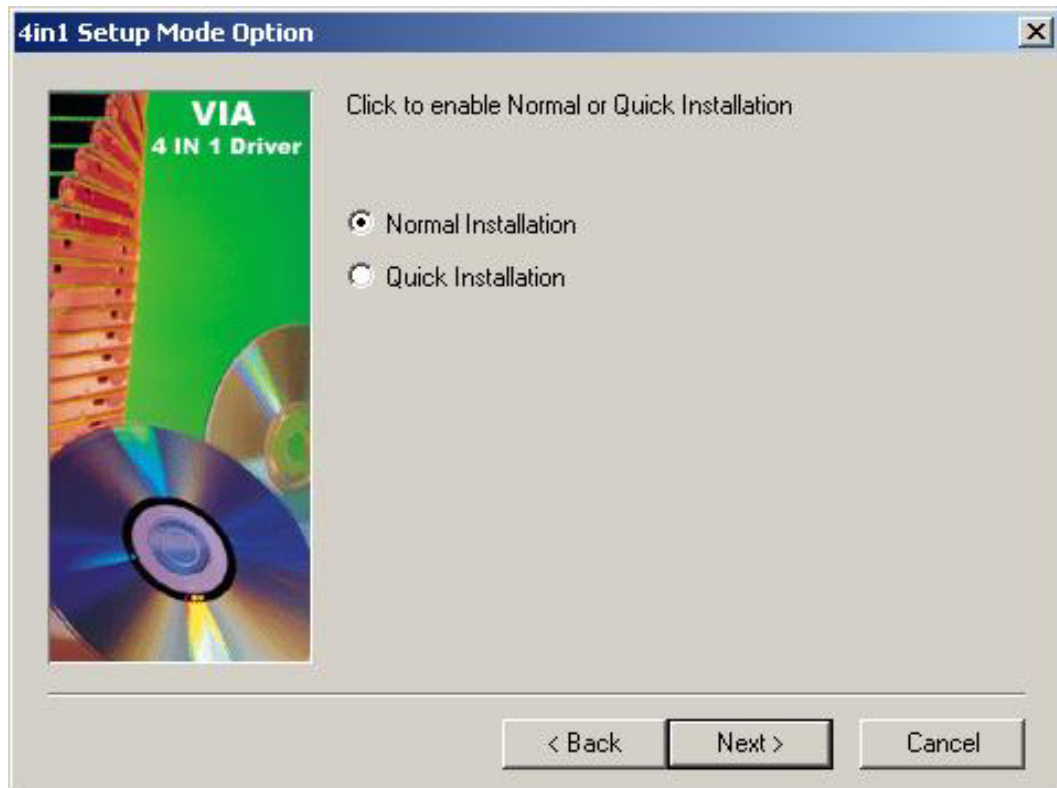

Figure 6-5: VIA Chipset Driver Installation Type
Step 6: Select “**Normal Installation**” or “**Quick Installation.**” (See **Figure 6-5**) Click “**NEXT**” to continue.